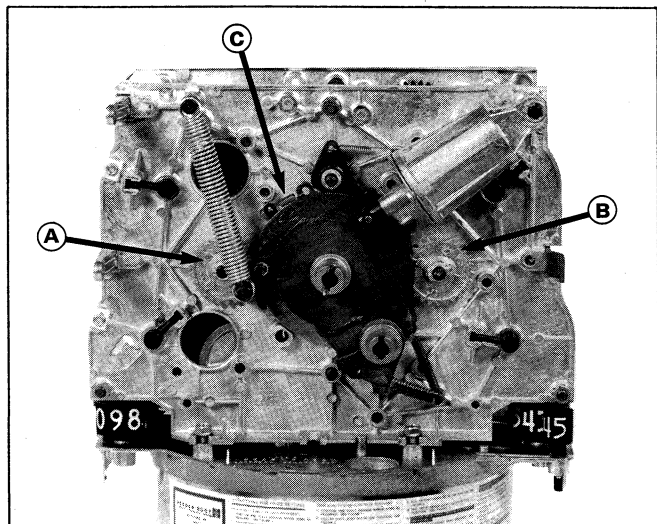

Figure 45.
- C. Replace roller (E) and make sure it is retained by Truarc.
4. Reset Gears Do Not Turn (Figure 45).